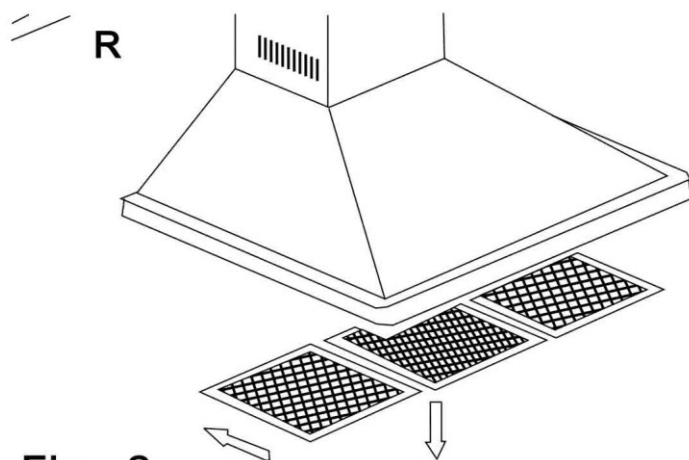

Fig. 2
- ✓ Remove the metal anti-grease filters (see Figure 2 below) and find the old bulb located in the light fixture up inside the exposed canopy. Change the Halogen bulb using only olive-shaped spares with an G4 coupling, max. 20W.
- 1) Press the handle of the metal grease filter towards the rear part of the unit until it is released from the front housing, and remove it by pressing downwards (Fig. 2 - above).